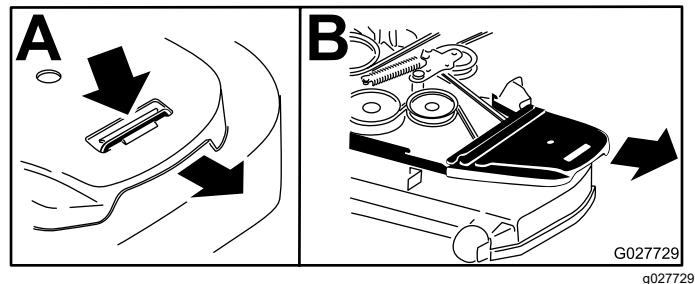

Figure 58
4. Remove the belt covers (Figure 58).